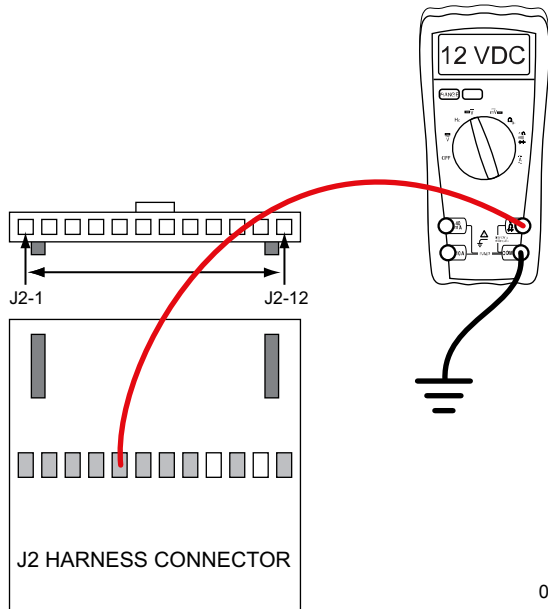

Figure 4-43. Test Wire 167, Steps 2-5
2. See **Figure 4-43**. Remove the J2 connector from the circuit board.